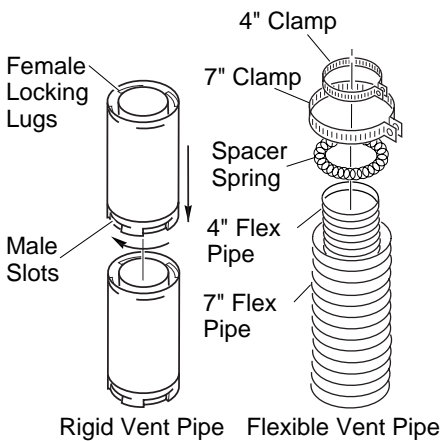

Figure 11 - Vent Pipe Connections
Twist-lock Procedure: The female ends of the pipes and fittings have four locking lugs (indentations). These lugs will slide straight into matching slots on the male ends of adjacent pipes and fittings. (All connections must be sealed with high temperature silicone sealant as specified in the second warning statement on page 7.) Push the pipe sections together and twist one section clockwise approximately one-quarter turn until the sections are fully locked. See Figure 11, page 9. *Note:* Horizontal runs of vent must be supported every three feet. Use wall straps for this purpose.
Flexible vent pipe must be installed with spacer springs every 12". See Figure 11, page 9. All connections must be clamped tightly and sealed with high temperature silicone sealant as specified in the second warning statement on page 7.
- Assemble the desired lengths of pipe and elbows necessary to reach from the fireplace flue up through the firestop. All connections must be sealed with high temperature silicone sealant as specified in the second warning statement on page 7. Be sure all pipe and elbow connections are fully twist-locked (see Figure 11, page 9).